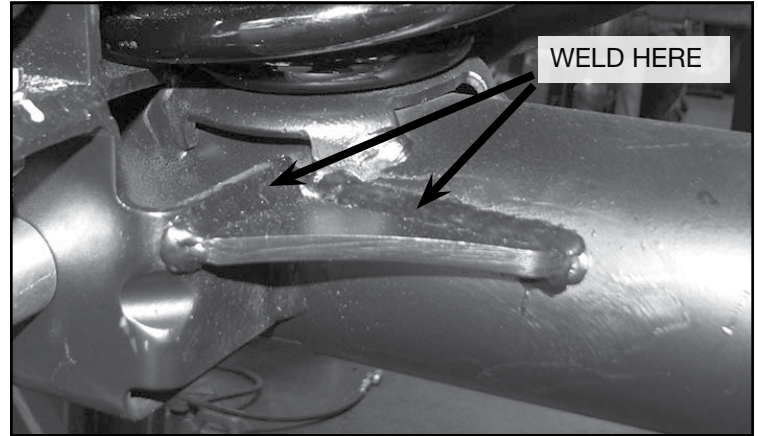

FIGURE 24 - STEP 21
18. Jack up the rear end of the vehicle and support the frame rails just in front of the rear bumper with jack stands. **NEVER WORK UNDER AN UNSUPPORTED VEHICLE!** Remove the rear tires. Support the rear axle. Do not allow to hang freely. Remove the factory shocks and rear sway bar end links and discard. Disconnect the brake lines from the frame and save hardware. Remove the plastic clips that hold the ABS lines to the frame and at the rear upper link arm pockets. Do not damage the clips, they will be reused. Remove the (2) nuts attaching the factory E-brake cable from the body and save.
21. Locate FT50362 Gusset, position it onto the axle and the factory trac bar mount as shown in photo. Weld the gusset on the two sides. **SEE FIGURE 24**